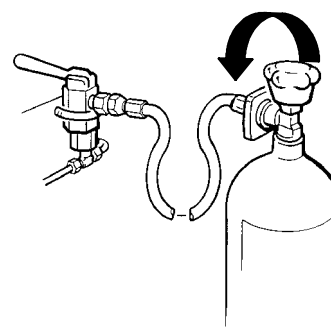

Fig. 21 Connecting air bottle
- Air bottles with international filling connector can be connected with filling adaptor (part no. 08487-635) to the German filling connector or with filling adaptor (part no. 03147-635) directly to the filling hose (see Fig. 21)